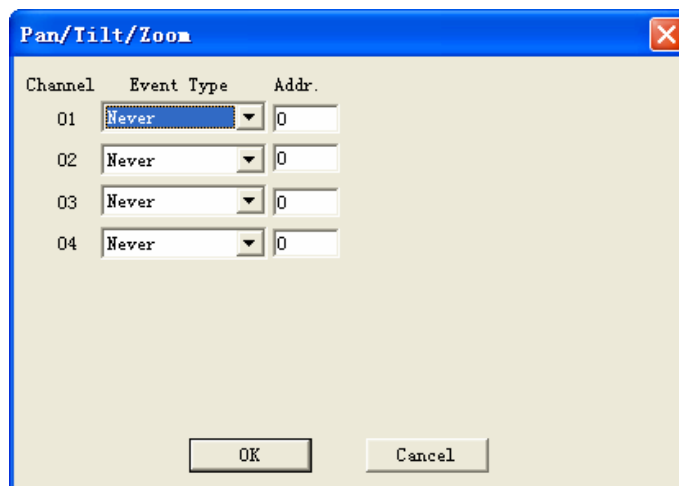

Figure 7-42
- ✧ PTZ activation: Here you can set PTZ movement when alarm occurs. Such as go to preset x when there is an alarm. Click set button, the interface is shown as in Figure 7-42.